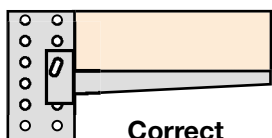

Figure B4
**NOTE:** All arm capacities are based on an evenly distributed load as in figures B4 and B5 below.